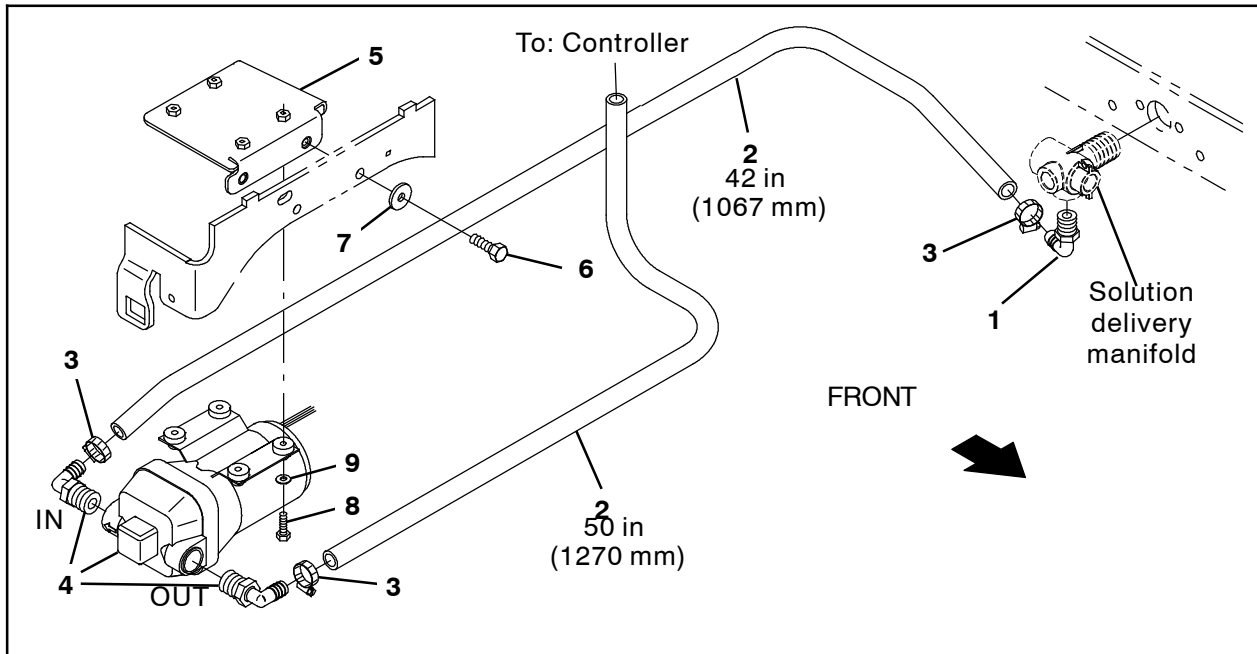

FIG. 1
1. Orient the fittings on the water pump (1) as shown and install the water pump unto to water pump mounting bracket. (Fig. 1)
2. Install the water pump assembly onto the frame of the machine. (Fig. 1)
3. Connect the 42 in (1067 mm) hose (2) to the solution delivery manifold. (Fig. 1)
4. Route the 42 in (1067 mm) hose (2) from the solution delivery manifold to the water pump assembly and connect the hose to the water pump assembly IN port. (Fig. 1)
5. Route the 50 in (1270 mm) hose (2) down from the battery compartment and to the water solution assembly and connect the hose to the water pump assembly OUT port. (Fig. 1)